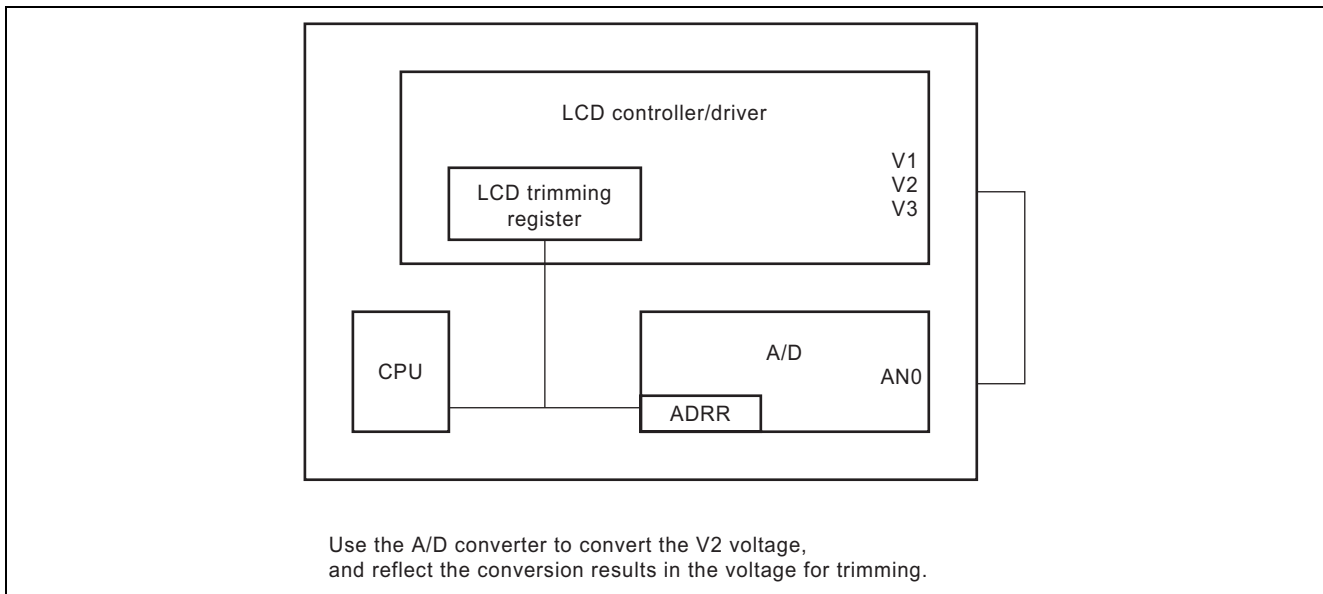

Figure 1 Automatic Trimming Using the A/D Converter
4. The 3-V constant-voltage power circuit and the A/D converter are connected as shown in figure 1 to perform trimming of the output voltage of the 3-V constant-voltage power circuit.